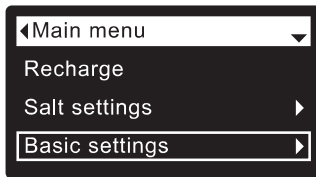

FIG. 101
1. From any of the rolling status screens, press the SELECT (O) button to display the **Main menu**.
2. Press the DOWN (▼) button to scroll through the menu options until **Basic settings** is highlighted (See Figure 101).